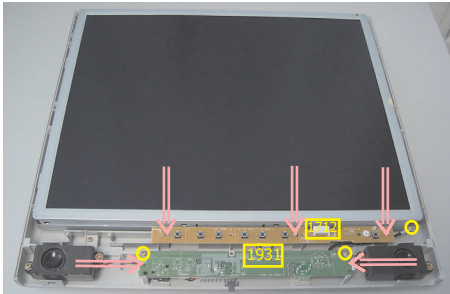

Fig.9
- Remove the three throws as shown in Fig.9
- remove the five clicks as shown in Fig.9 and disconnect 1931 from Audio-board and 1712 from Control-board